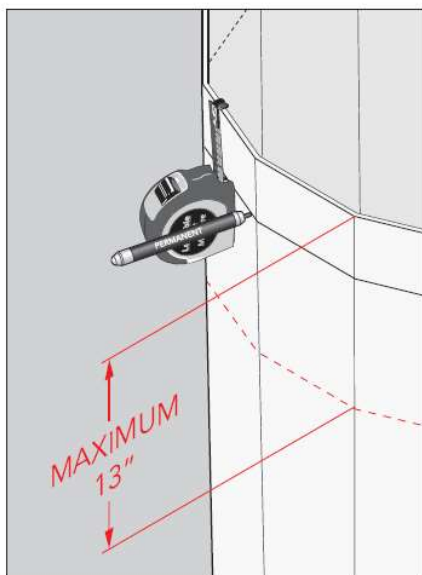

Figure 4
5. If the sump base must be trimmed, mark the trim line on the sump base using a permanent marker - make sure to mark a level line on the tank sump for cutting (use a locked tape measure as shown in Figure 4). If the line is not level, re-measure and re-mark until the marked line is correct and level. The sump and top hat will not seal properly if the cut is jagged or uneven.